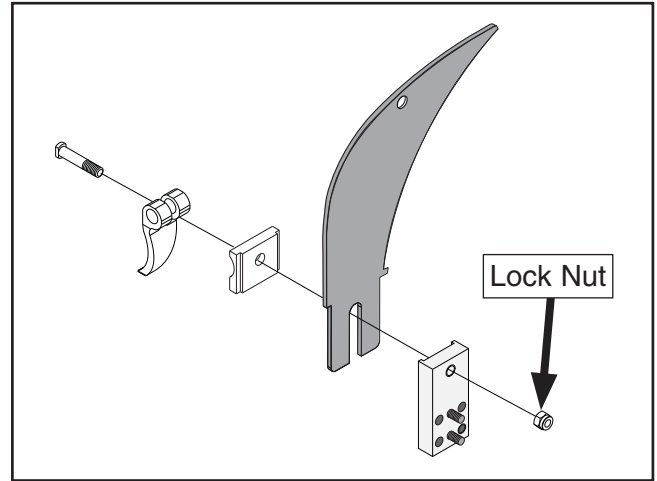

Figure 4. Location of lever assembly lock nut.
4. Fully tighten lock nut on lever assembly while lever is in locked position (see **Figure 4**). Pull riving knife up to verify it is locked.